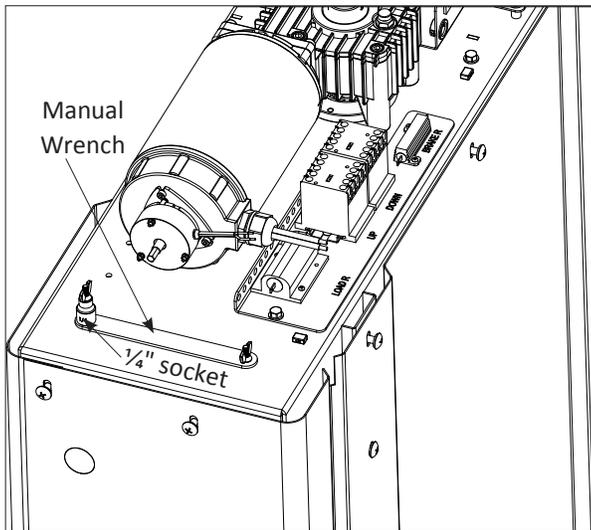

Figure 6-9
3. Remove the two wingnuts holding down the manual lowering tools ( $\frac{1}{4}$ " wrench and  $\frac{1}{4}$ " x  $\frac{3}{8}$ " drive socket). *See Figure 6-9.*